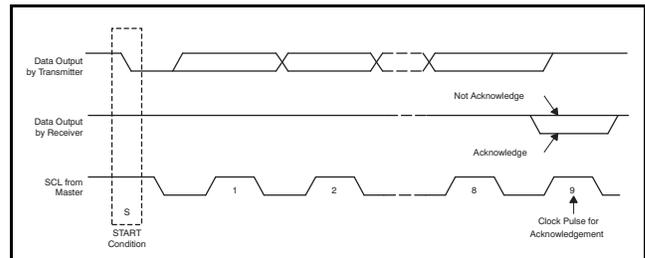
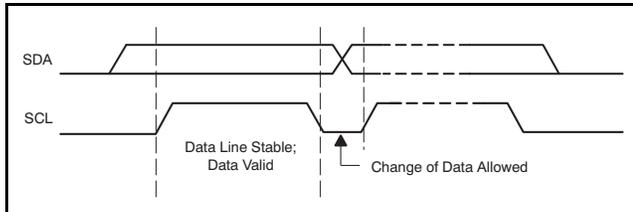

Figure 114. Acknowledge and Not Acknowledge Signals on the I²C Bus
Figure 115. I²C Bus Bit Transfer
Other than specific timing signals, the I²C interface works with serial bytes. At the end of each byte, a ninth clock cycle is used to generate/detect an acknowledge signal, as shown in Figure 114. An *acknowledge* is when the SDA line is pulled low during the high period of the ninth clock cycle. A *not-acknowledge* is when the SDA line is left high during the high period of the ninth clock cycle.
- The master initiates data transfer by generating a start condition, defined as when a high-to-low transition occurs on the SDA line while SCL is high, as shown in Figure 114. All I²C-compatible devices recognize a start condition.
- The master then generates the SCL pulses, and transmits the 7-bit address and the read/write direction bit (R/\bar{W}) on the SDA line. During all transmissions, the master ensures that data are valid. A valid data condition requires the SDA line to be stable during the entire high period of the clock pulse, as shown in Figure 115. All devices recognize the address sent by the master and compare it to the internal fixed addresses. Only the slave device with a matching address generates an acknowledge by pulling the SDA line low during the entire high period of the ninth SCL cycle, as shown in Figure 114. Upon detecting this acknowledge, the master recognizes the communication link with a slave has been established.
- To signal the end of the data transfer, the master generates a stop condition by pulling the SDA line from low to high while the SCL line is high (see Figure 115). This action releases the bus and stops the communication link with the addressed